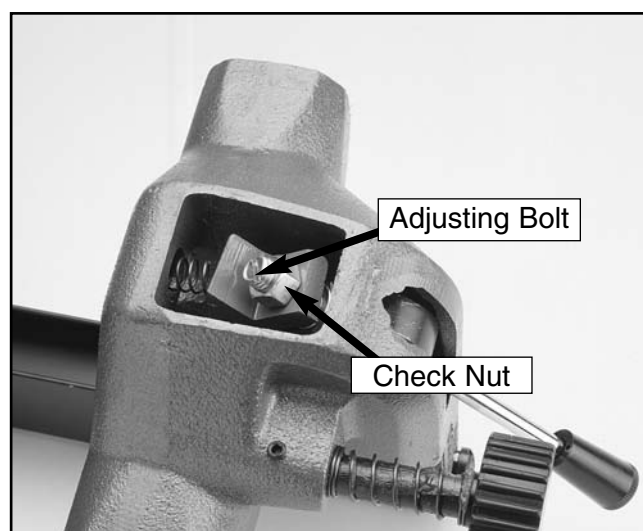

Figure 25. Adjusting clamp mechanism.
4. If the front clamp requires adjustment, loosen the check nut shown in **Figure 25**. Turn the adjusting bolt clockwise if the front clamp is too far from the rail, or counter-clockwise if it is too close.